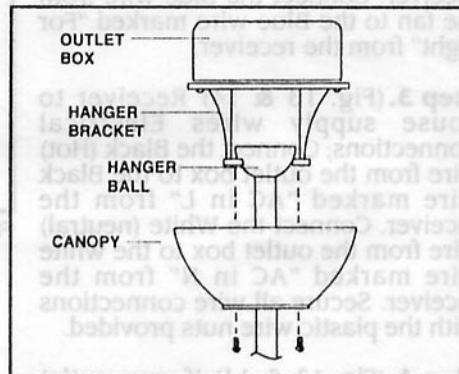

FIG.14
**NOTE:** Adjust the canopy screws as necessary until the canopy snug. (Fig. 14)